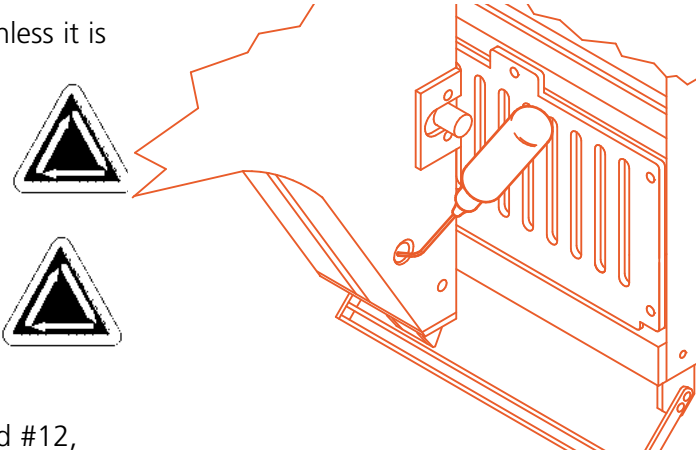

Figure 5-6
3. At the far left end of the machine (head #12, the furthest from the workstation), use a small flashlight to look through the red-lined hole. Confirm that the lower lubricating hole is properly aligned (refer to Figure 5-6).